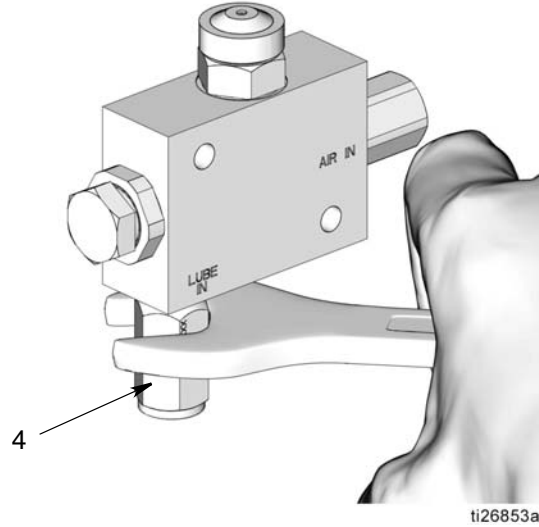

FIG. 4
1. Use a wrench to remove the check valve (4) (FIG. 4).